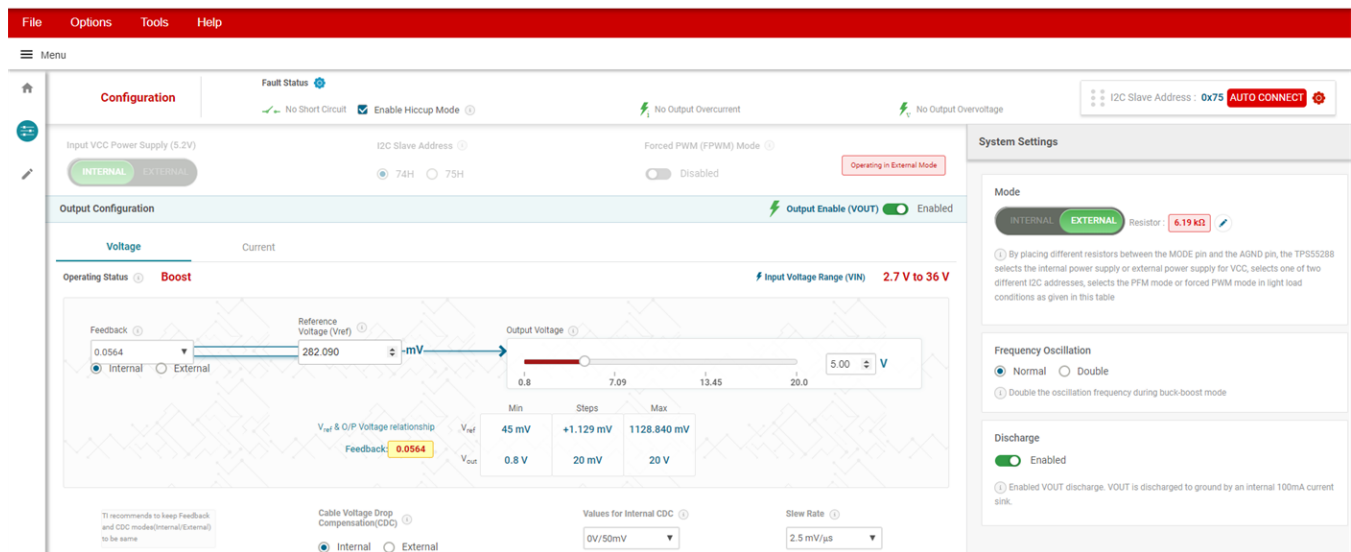

Figure 4. GUI User Interface of TPS55288EVM-045
Step 4: Click the start button. It will show the GUI user interface of TPS55288EVM-045 (Figure 4).